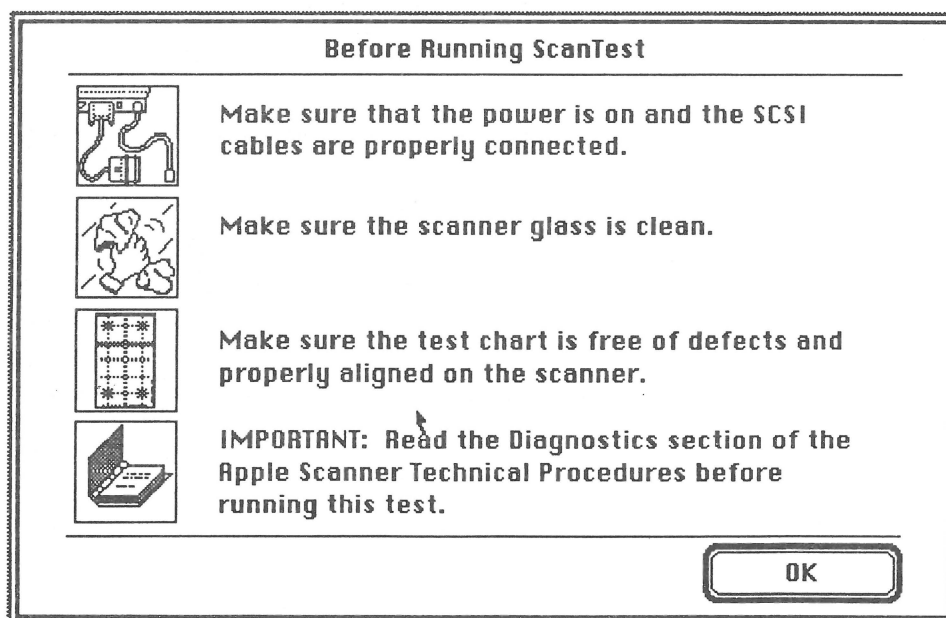

FIGURE 3
3. Start ScanTest by double-clicking on the ScanTest application icon (from the hard disk or from the floppy disk). If the startup screen is not disabled, the screen shown in Figure 3 will display. (Refer to "Startup Screen" later in this section.) This information window reminds you of certain conditions that must be present before ScanTest can run correctly.